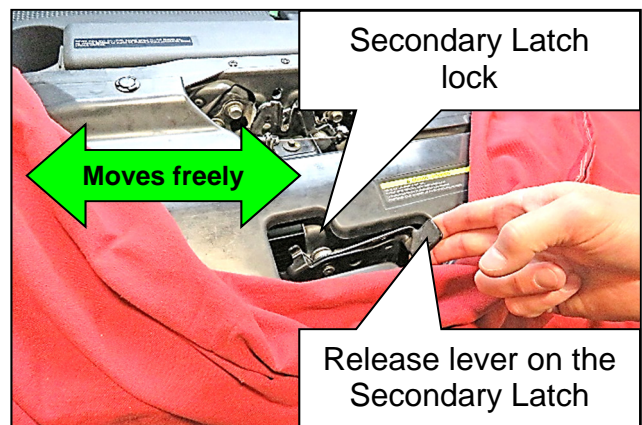

Figure 2
3. Move / cycle the release lever on the Secondary Latch five (5) times (Figure 2). When the release lever is released; does the Secondary Latch lock snap back to the closed position quickly without sticking?